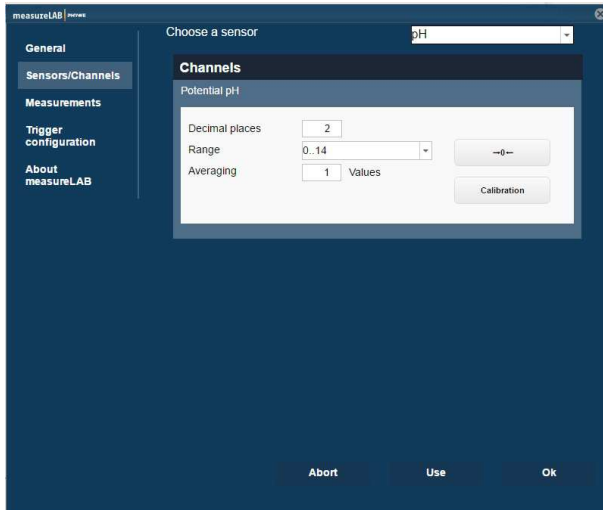
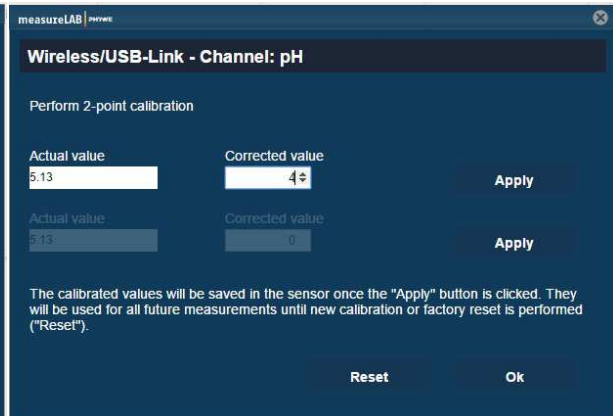

Fig. 3: pH calibration
Fig. 4: pH Calibration (Correction of values)
- go to "Configuration" (fig. 4)
- then go to (scroll down if necessary) "Calibration" (fig. 4)
Go to settings and select pH Sensor. Click on Calibration (Fig. 3) and perform a 2-point calibration by using two buffer solutions, e.g. pH 4.0 and pH 10.0 (Fig. 4).